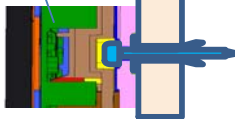

Figure 7. Thermostat Installation to Wall
4. Use steps A through D (see figure 7 for using provided optional wall plate).